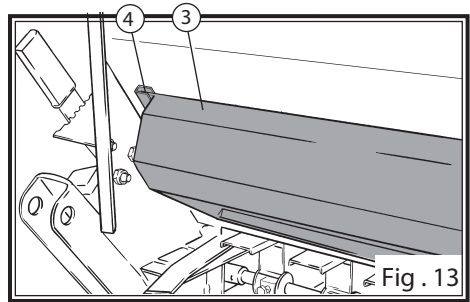

Fig . 13
**SECOND:** Pull the calibration cup (3, fig. 13) upwards out of the holders (4, fig. 13) and place it under the seed wheels.